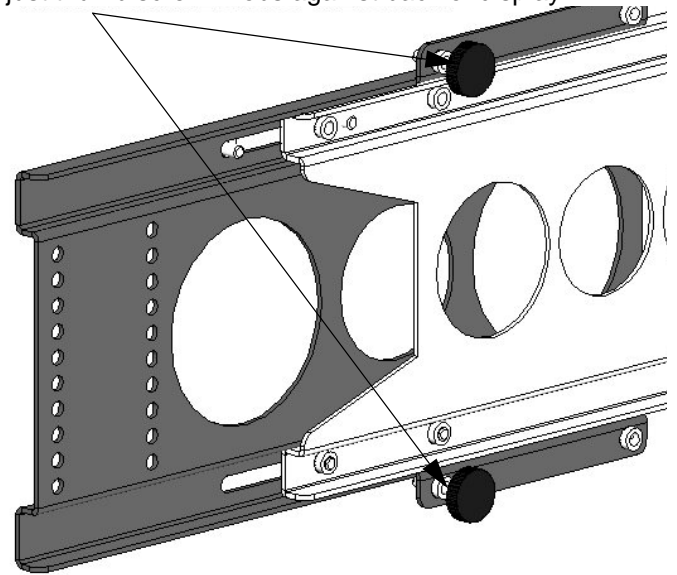

Figure 9. Adjust Thumb Screw Knobs
3. Adjust the thumb screw knobs (130) against the display to stabilize the display if necessary (see Figure 9).